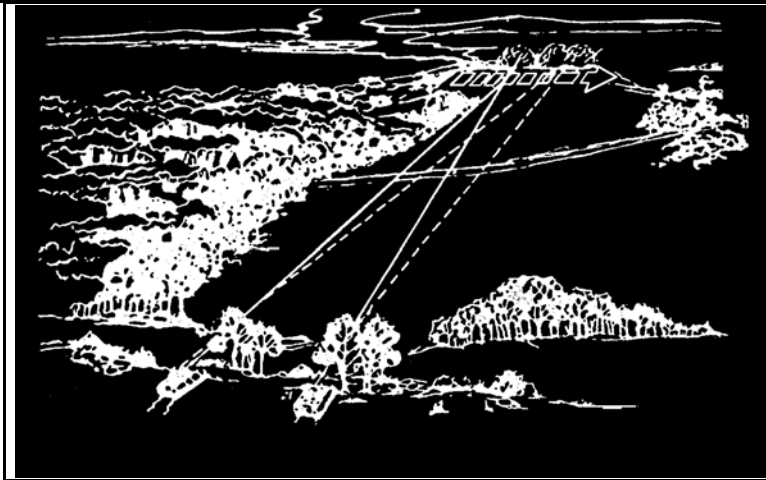

Figure 1. “Walking” fire across objective.
3. When the assault begins, signal the base-of-fire element to cease fire, shift its fire to another target area, or, preferably, “walk” its fire across the objective in front of the moving force and then shift or cease its fire (Figure 1).